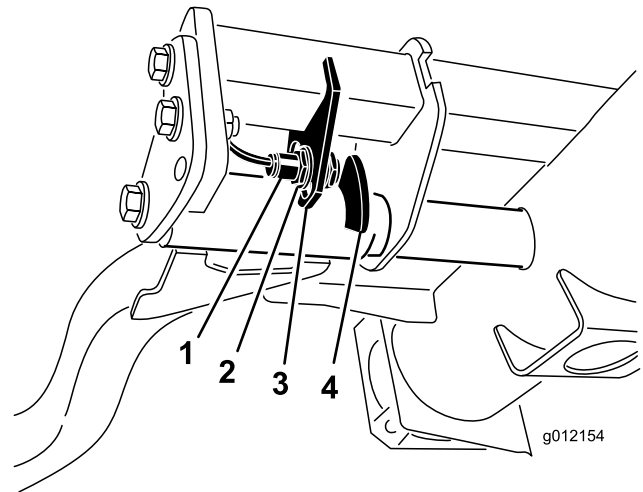

Figure 35
2. The lift arm switch is located underneath the hydraulic tank behind the front right lift arm (Figure 35).
3. Loosen the switch mounting screws (Figure 35) and move the switch down to increase the lift arm turn around height or move the switch up to decrease the lift arm turn around height. Tighten the mounting screws.